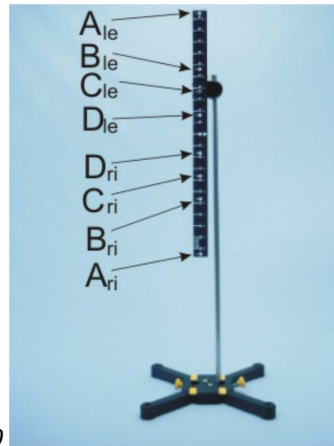

Fig. 11
- Record all the measured values in Table 1 on the Results page (for the names of the holes see Fig. 11).